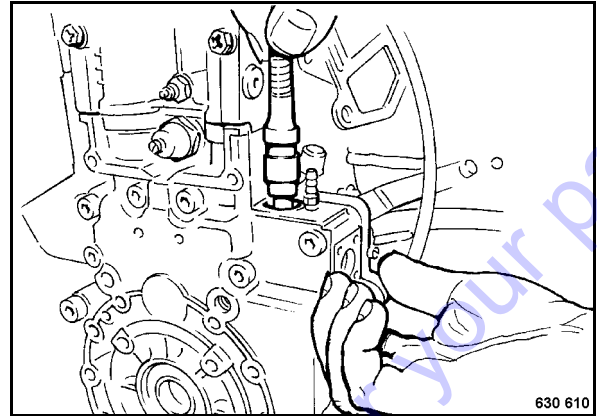

Fig. 86
- Insert the pump element (Fig. 86), ensure correct position of the suction hole (bore with taper) and of the element flag (the number with 400 or 4.. should be on the side opposite the suction bore).